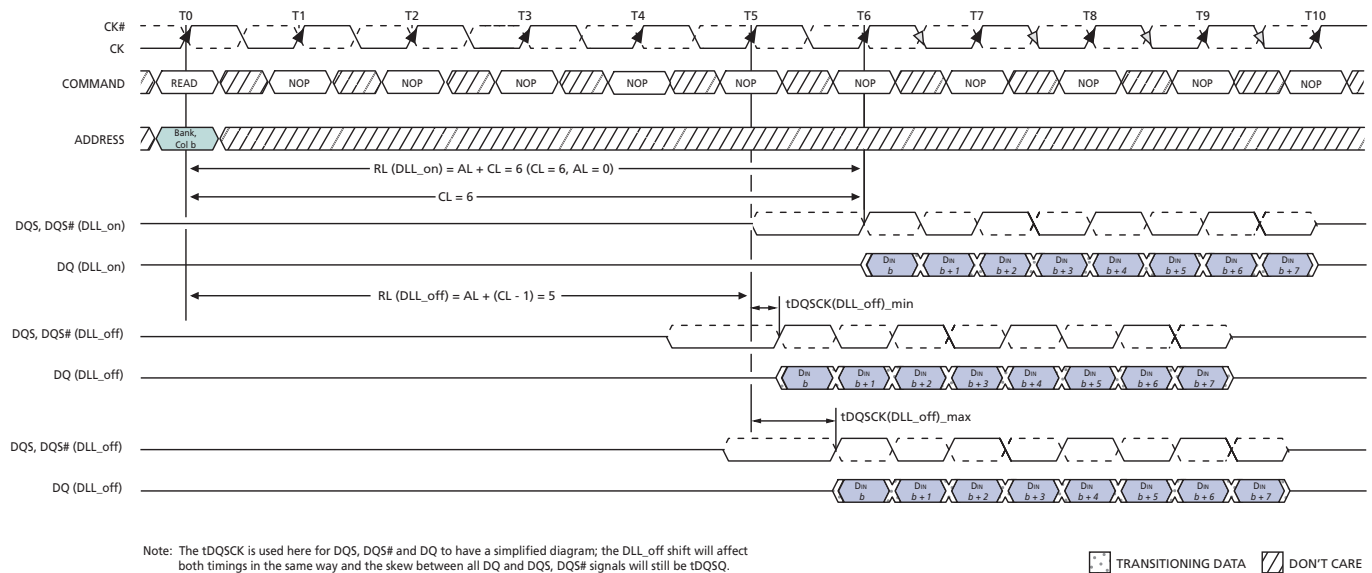

Figure 13 — DLL-off mode READ Timing Operation
3. If the RTT_NOM feature was enabled in the mode register prior to entering Precharge power down mode, the ODT signal must continuously be registered LOW ensuring RTT is in an off state, as shown in Figure 13. If the RTT_NOM feature was disabled in the mode register prior to entering Precharge power down mode, RTT will remain in the off state. The ODT signal can be registered either LOW or HIGH in this case.